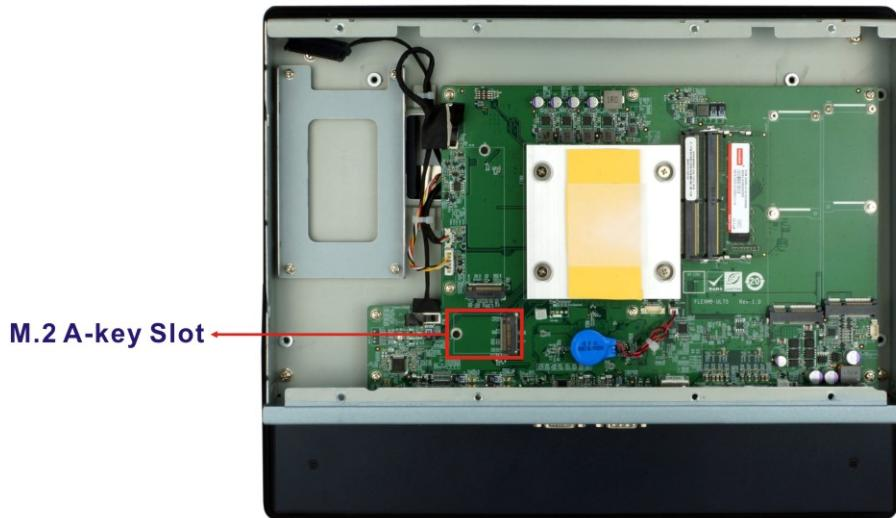

Figure 3-13: M.2 A-key Slot Location
Step 3: Locate the M.2 A-key slot (**Figure 3-13**).